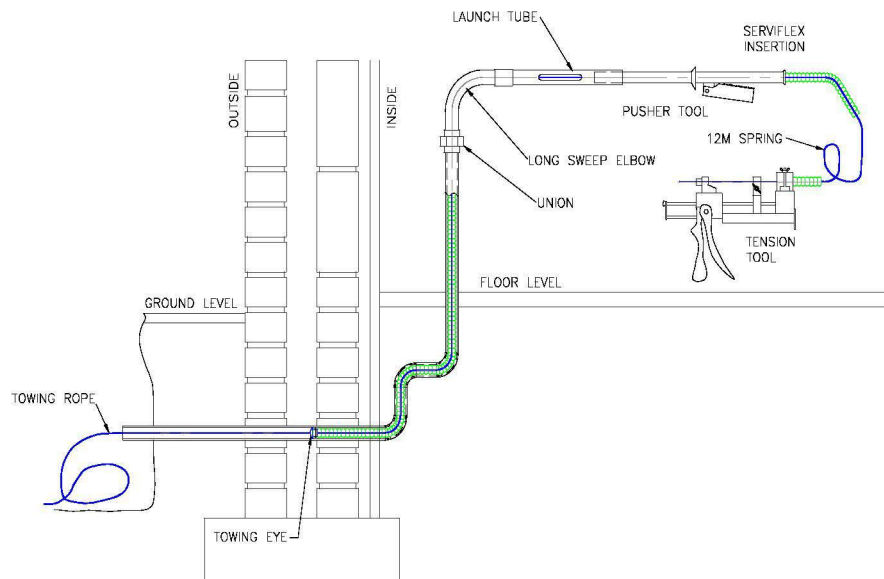

Figure B6 - Insertion of Serviflex pipe
26. Use pusher gripper to feed remaining distance (observe metre marks until approx 1m left from the top of the service). (Figure B6)